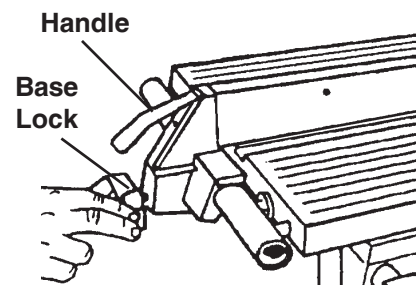

Figure 77
2. Lock both the Base Lock and the Handle. Figure 77.